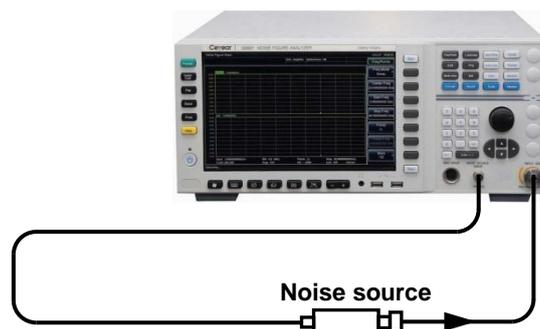

Fig.4.7 Calibration Connection of Upconverter and Downconverter Test Mode
- Step 2.** The calibration connection of the converter test mode is shown in Fig.4.7. Turn on the noise figure analyzer and press the **【Preset】** key to restore the factory default status.